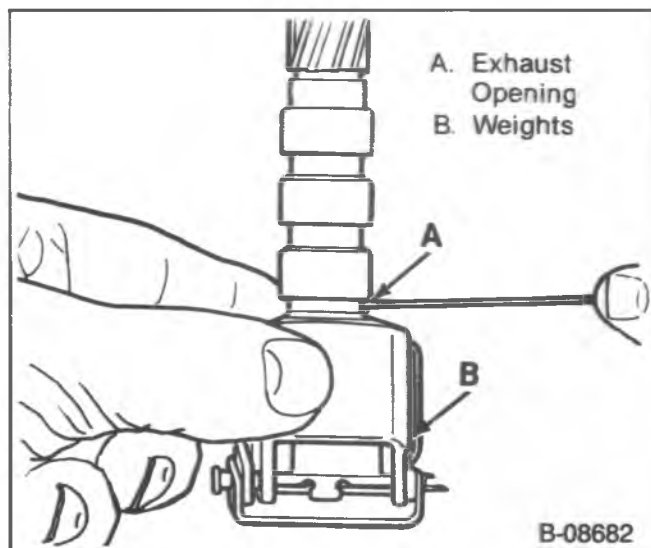

Figure 71—Measuring the Governor Valve Exhaust Opening
- Valve exhaust opening. With the weights held all the way inward, the opening should be 5.1 mm (0.020 in.) (Figure 71).